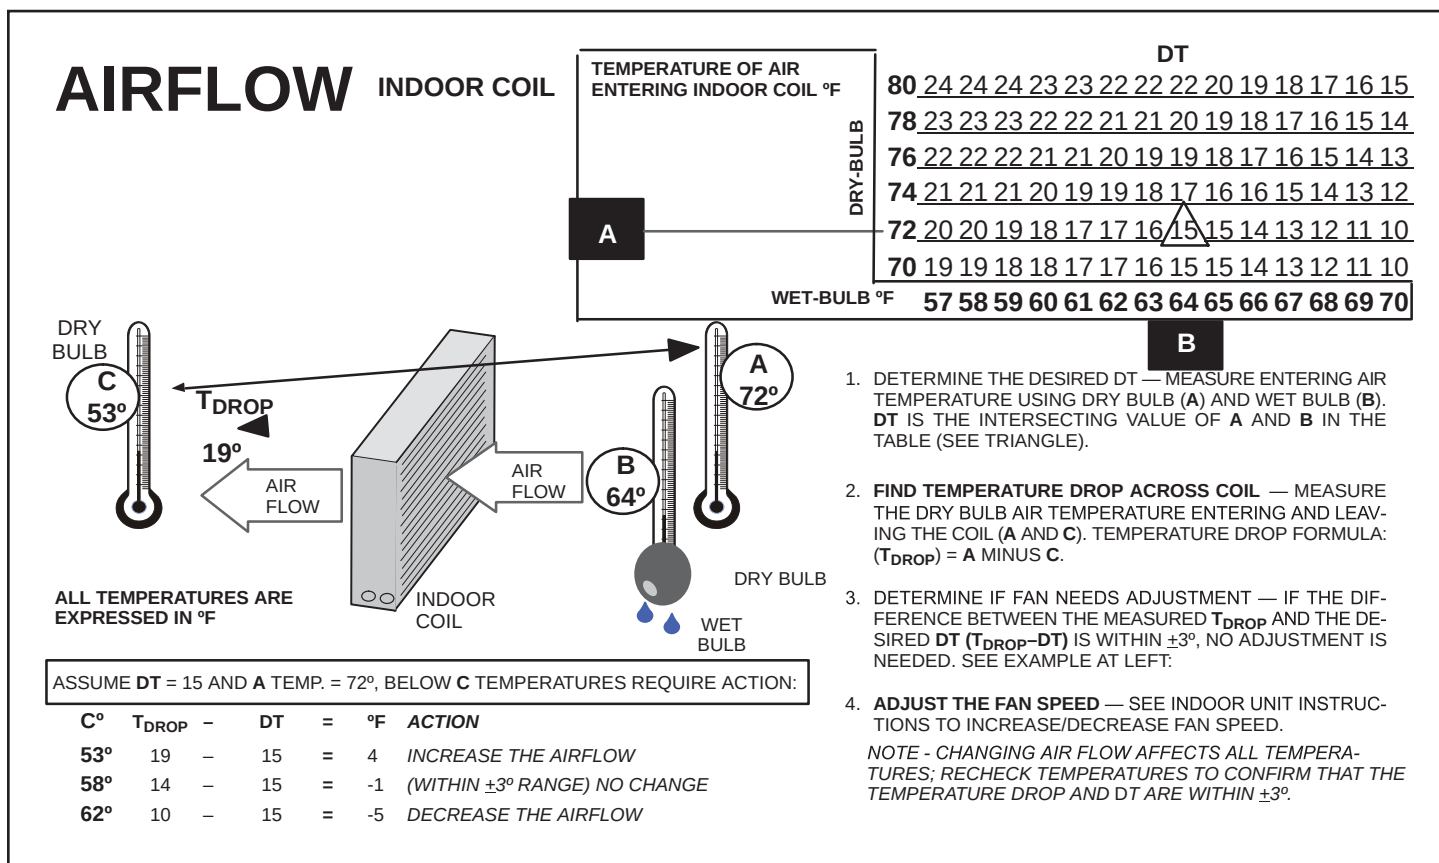

FIGURE 21. Checking Indoor Airflow over Evaporator Coil using Delta-T Chart
This system uses R-454B which operates at slightly lower pressures than HFC-410A. The field-installed liquid line filter drier is approved for use with R-454B. Do not replace any components designed for use with HCFC-22. Check airflow using the Delta-T (DT) process using the illustration in **FIGURE 21**.